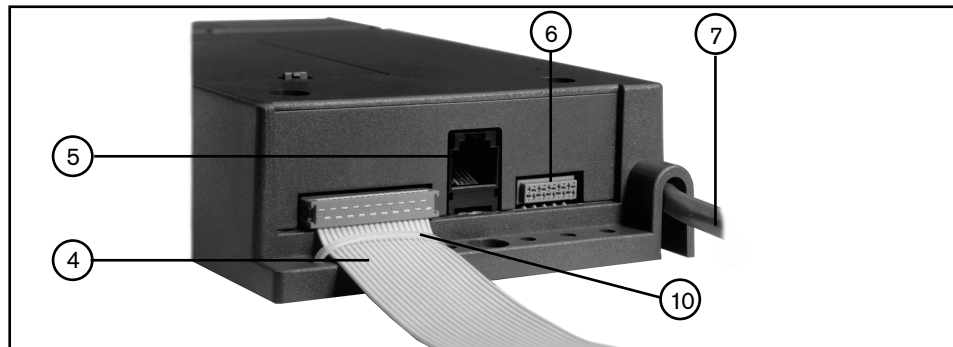
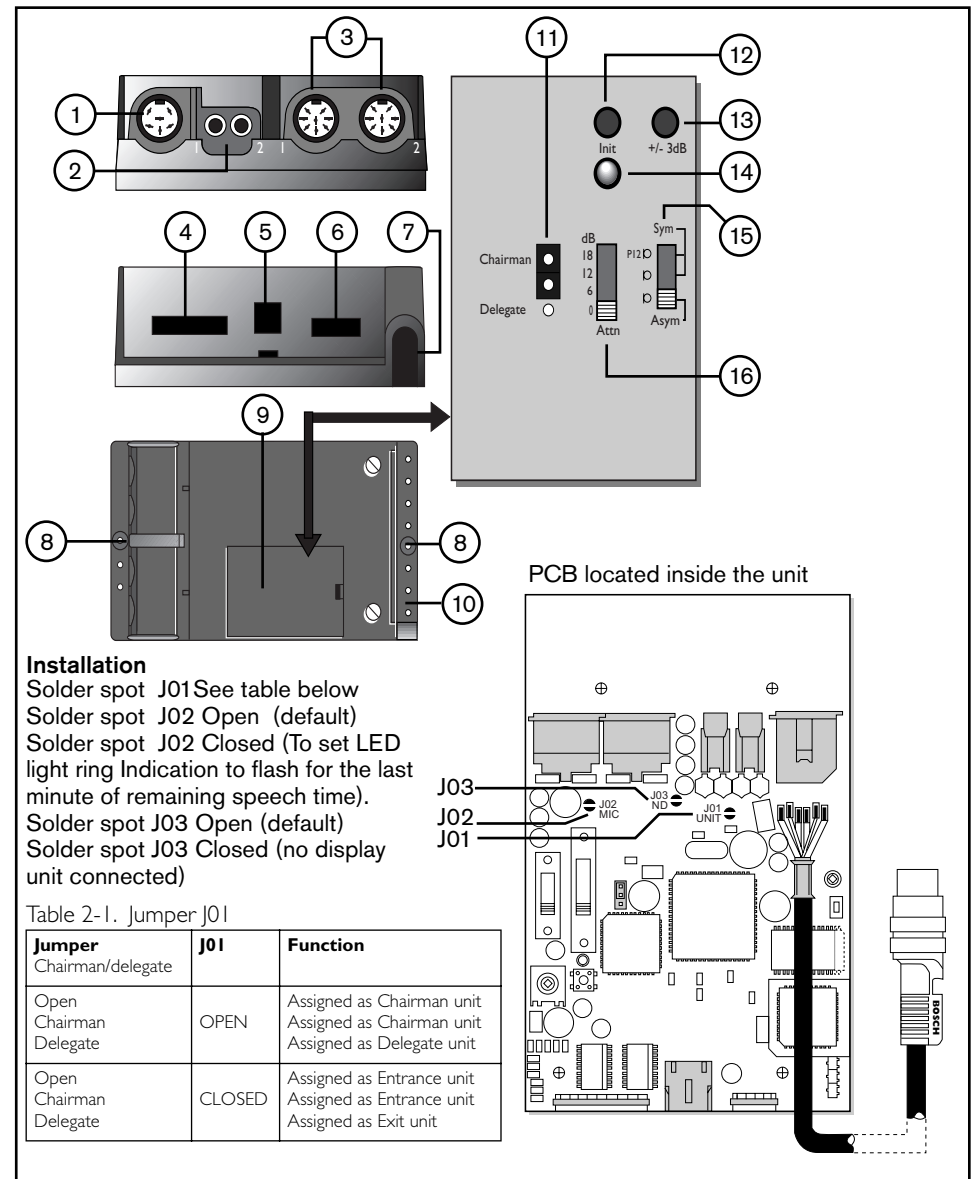

FIG. 2-24 LBB 3540/15 connection
FIG. 2-25 Layout LBB 3540/15 Multi-purpose connection unit
1. A jumper on selection panel (FIG. 2-25 (11)) is used when assigning the unit for use as either a delegate or chairman unit. When used as a chairman unit, MIC 2 input is for microphone (LBB 3537/xx) and MIC 1 input for priority control (LBB 3537/10).
Controls and Indicators (FIG. 2-24 and FIG. 2-25)